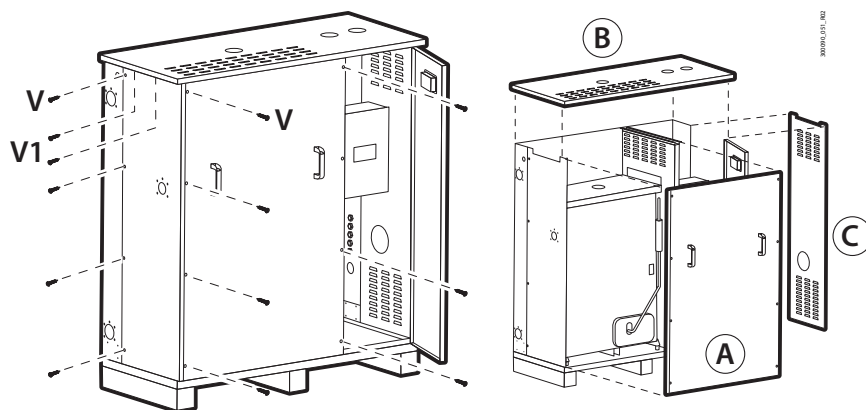

Fig. 17.a
- remove panels A, B and C (Fig. 17.a).